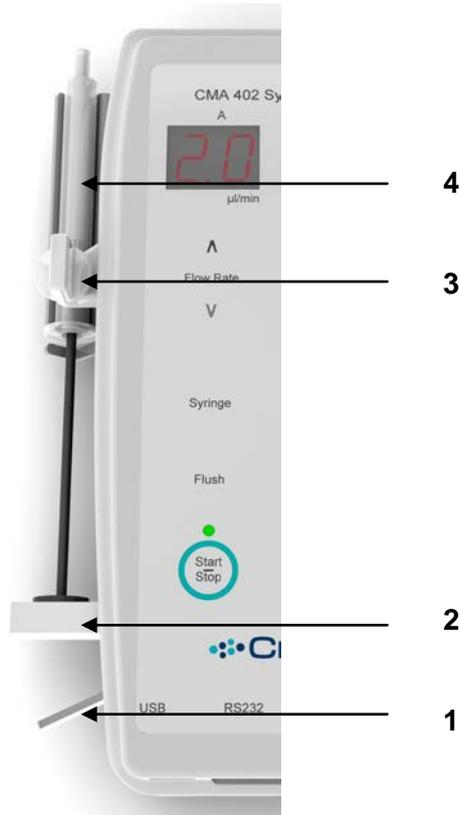

Figure 5.4 Inserting / withdrawing the syringe
screw (3). Move the carriage (4) by pressing the carriage locker (5) and slide it to the syringe plunger (see fig 5.4).